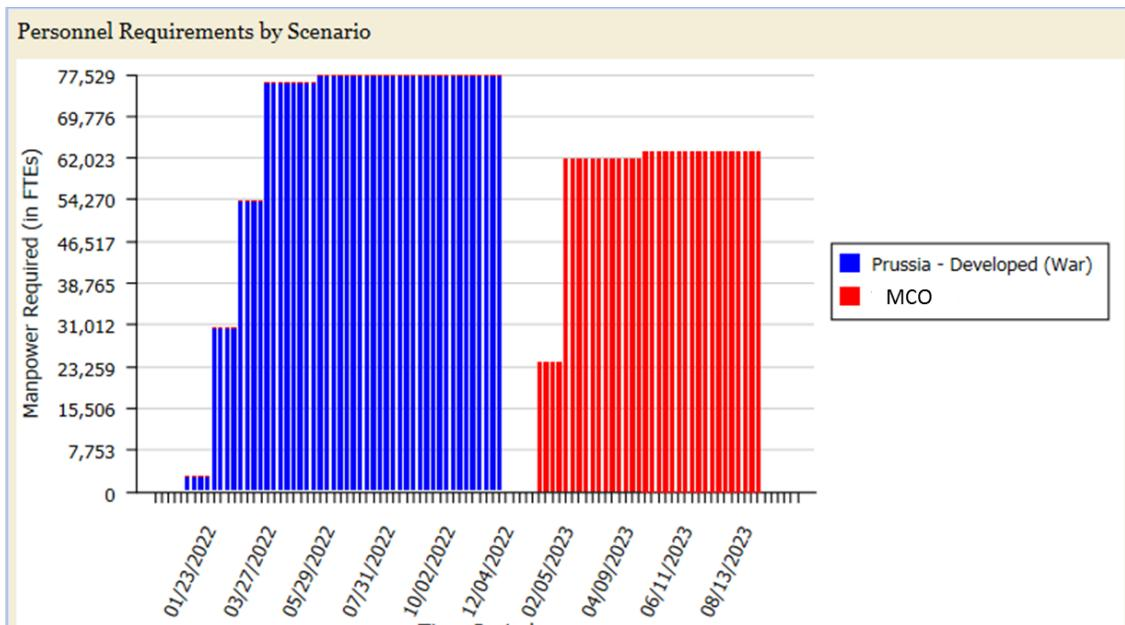

Figure 7. Personnel Requirements by Scenario for uncertainty analysis.
- Check that the graph looks like Figure 7: